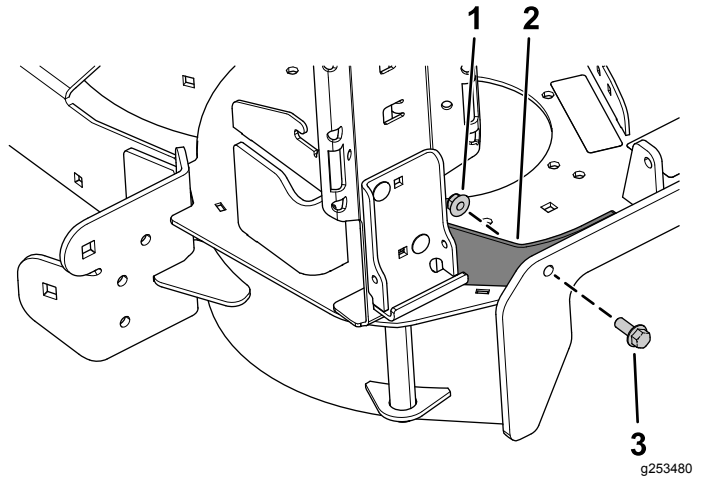

Figure 5
- Secure the mount strap to the mower deck using the flange-head bolt (3/8 x 1 inch) and locknut (3/8 inch) as shown in Figure 5.